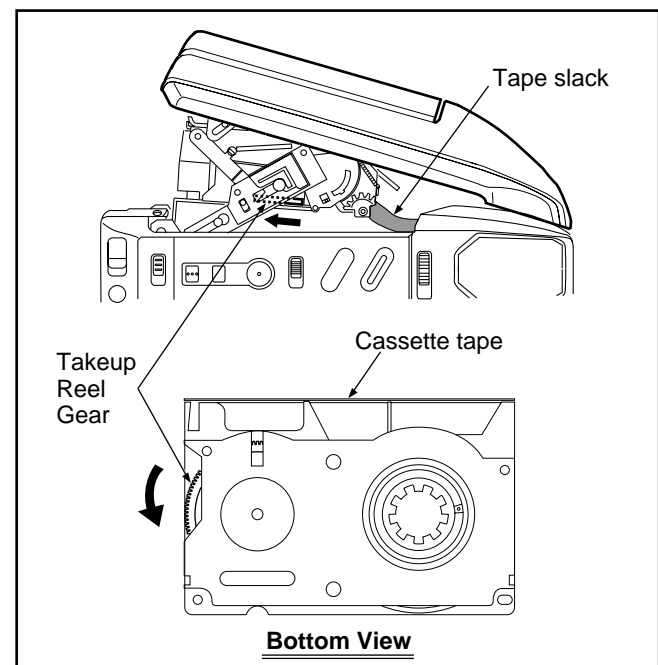

Fig. 4-4
- (6) Open the Cassette Cover fully.
- (7) Remove the tape slack by rotating the Takeup Reel Gear of the cassette tape as shown in Fig. 4-4.
- (3) Open the Cassette Cover.
- (4) Remove the tape slack by rotating the Takeup Reel Gear of the cassette tape as shown in Fig. 4-4.
- (5) Take out the cassette tape.
- (6) Connect the Power or Battery to set the Mechanism to STOP Position.